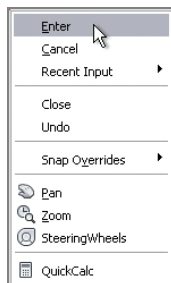

FIGURE 2.10 This context menu appears when you hold down the right mouse button longer than 250 milliseconds.
9. Right-click again to repeat the last command, and then click two points on the canvas. Next, slowly right-click (holding down the right mouse button for longer than 250 milliseconds, to be precise), and you'll see the context menu shown in Figure 2.10. Left-click on the word Enter from this menu to complete the Line command.